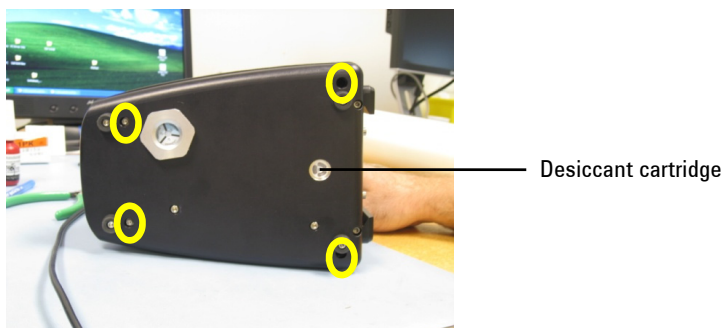

Figure 24. Bottom of Cary 630 FTIR, showing screws to remove (circled)
- 1 Tilt the spectrometer on its side to expose the bottom plate (see Figure 24). There are two visible screws; and two deep, recessed screws securing the instrument. Using the 3/32 ball driver, remove all four screws.